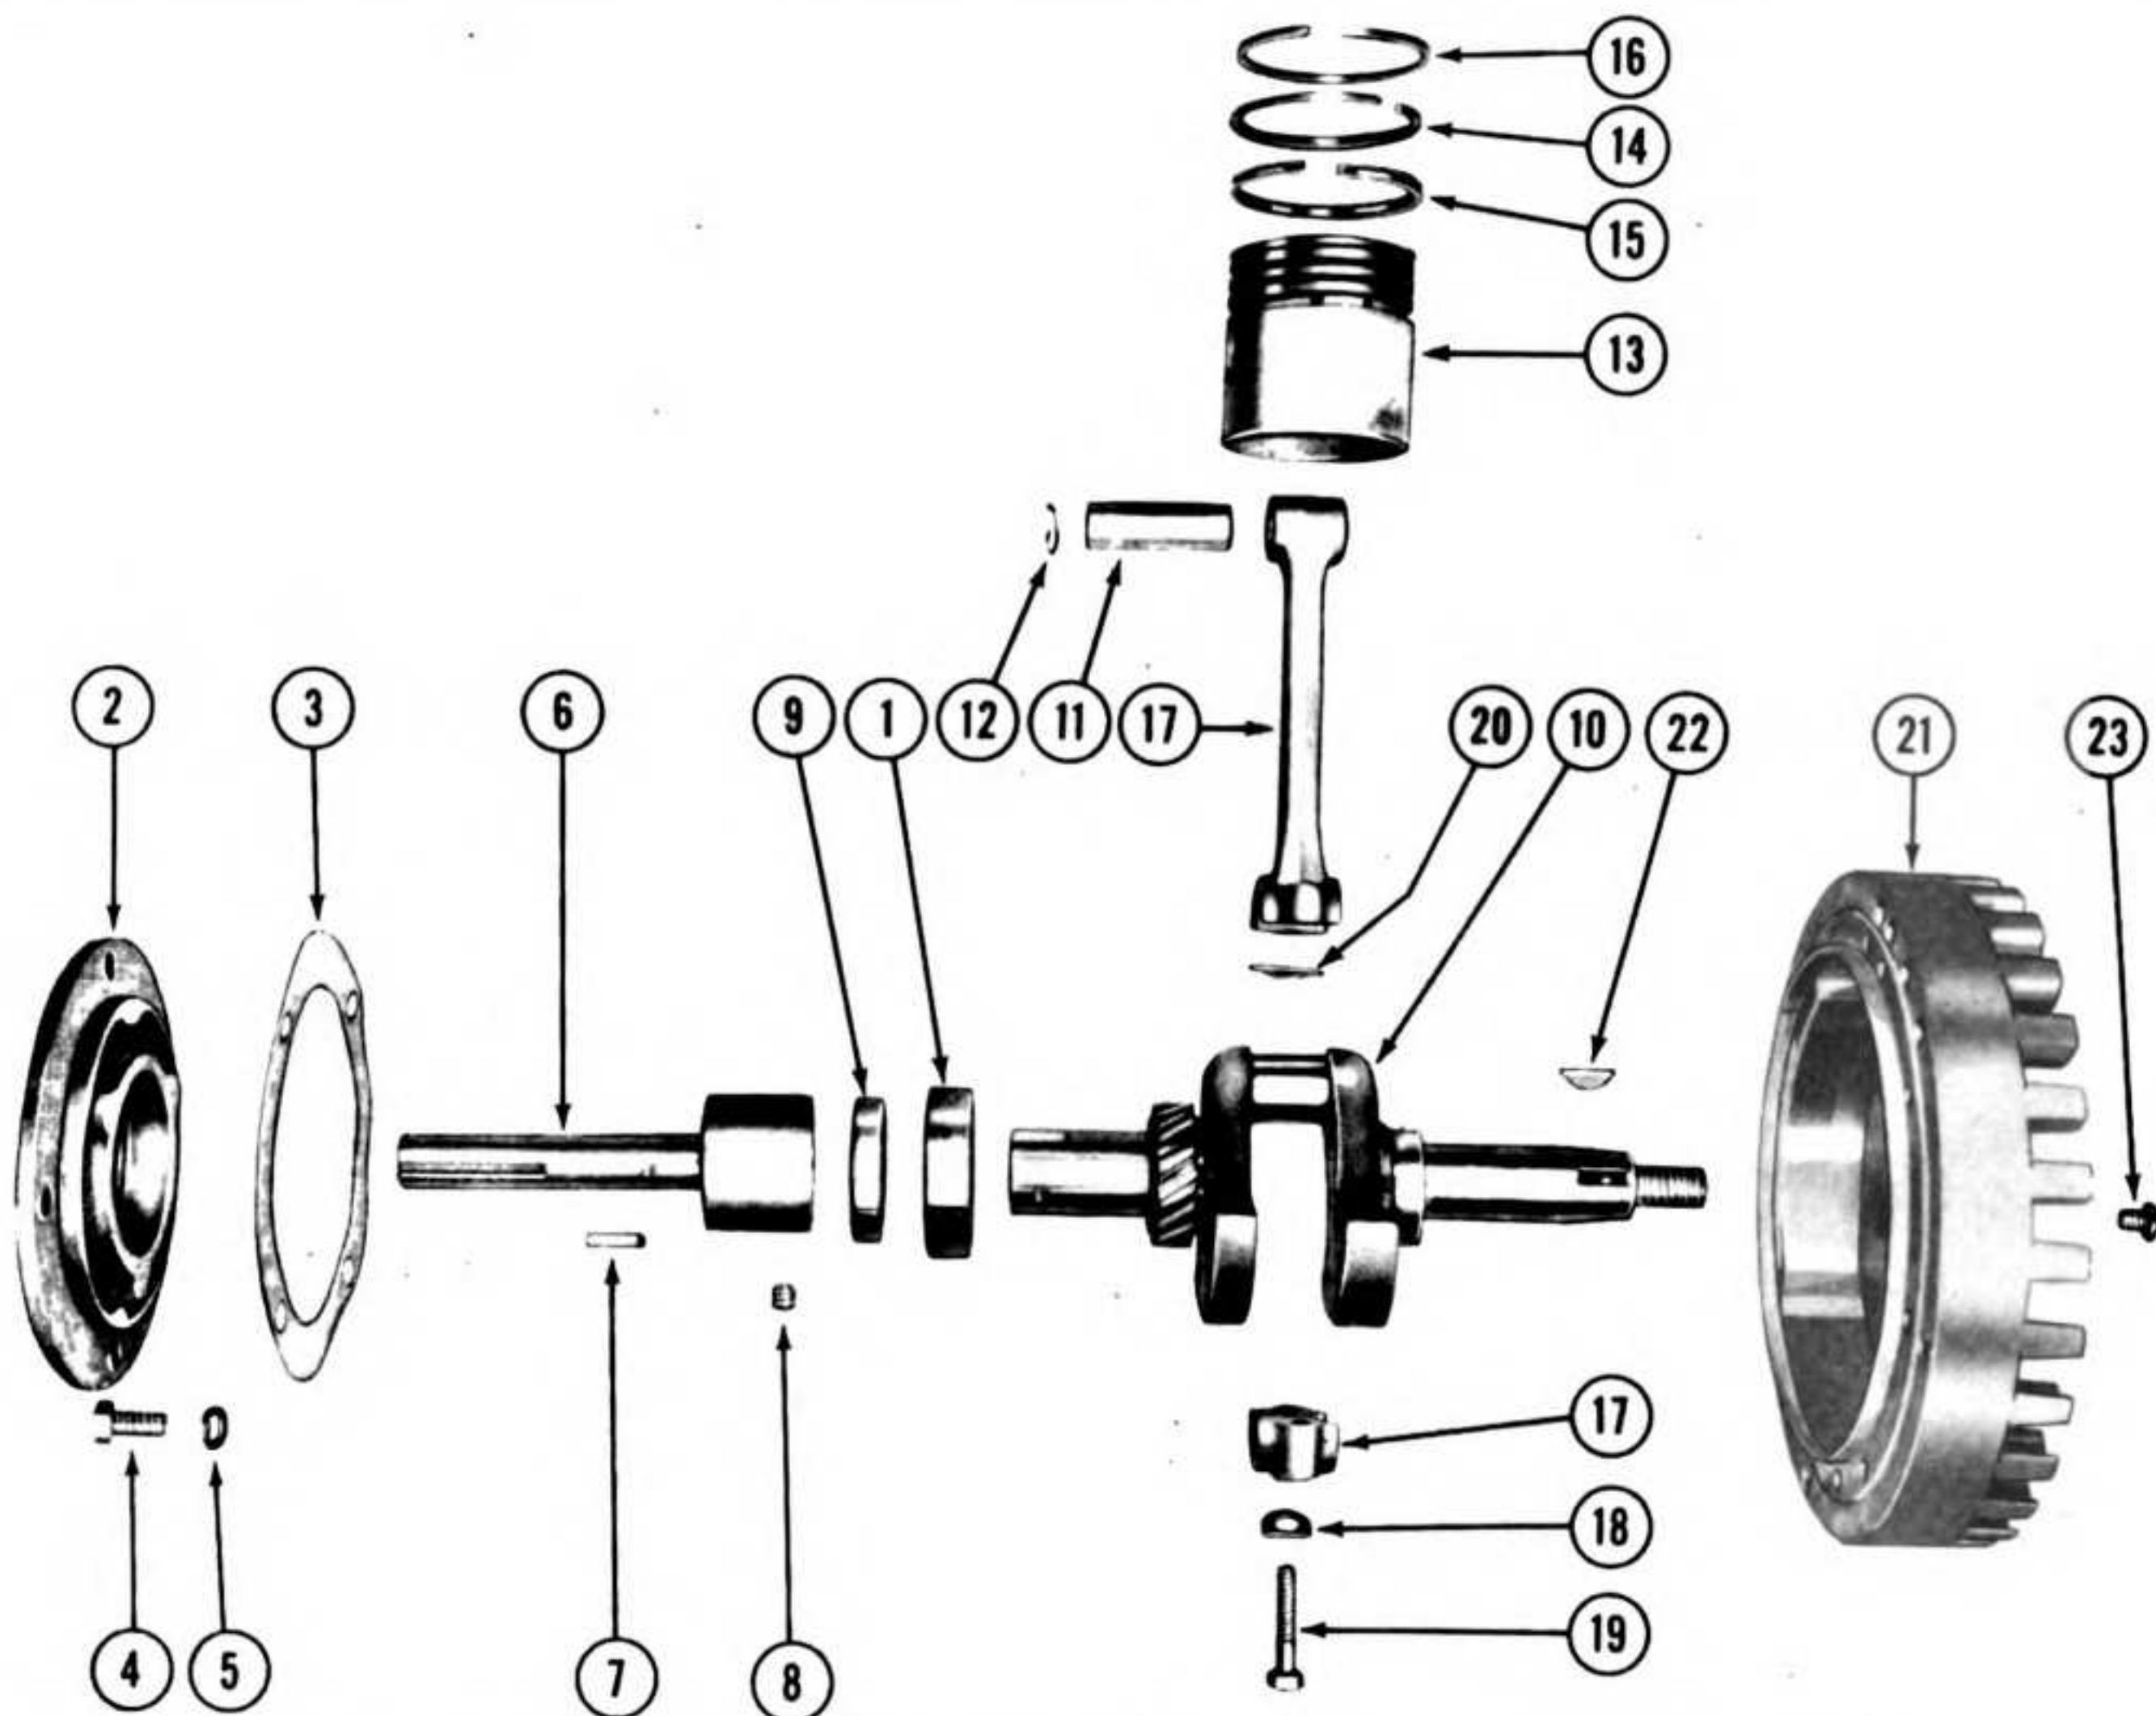

Figure 38—Exploded View of Crankshaft, Piston, Connecting Rod, and Flywheel
(1) Loosen the setscrews locking the shaft extension to the crankshaft. (See figure 38.)
(2) Pull the shaft extension from the crankshaft, freeing two dowel pins.
(3) Slip off the oil seal.
(4) Support both sides of the bearing in an arbor